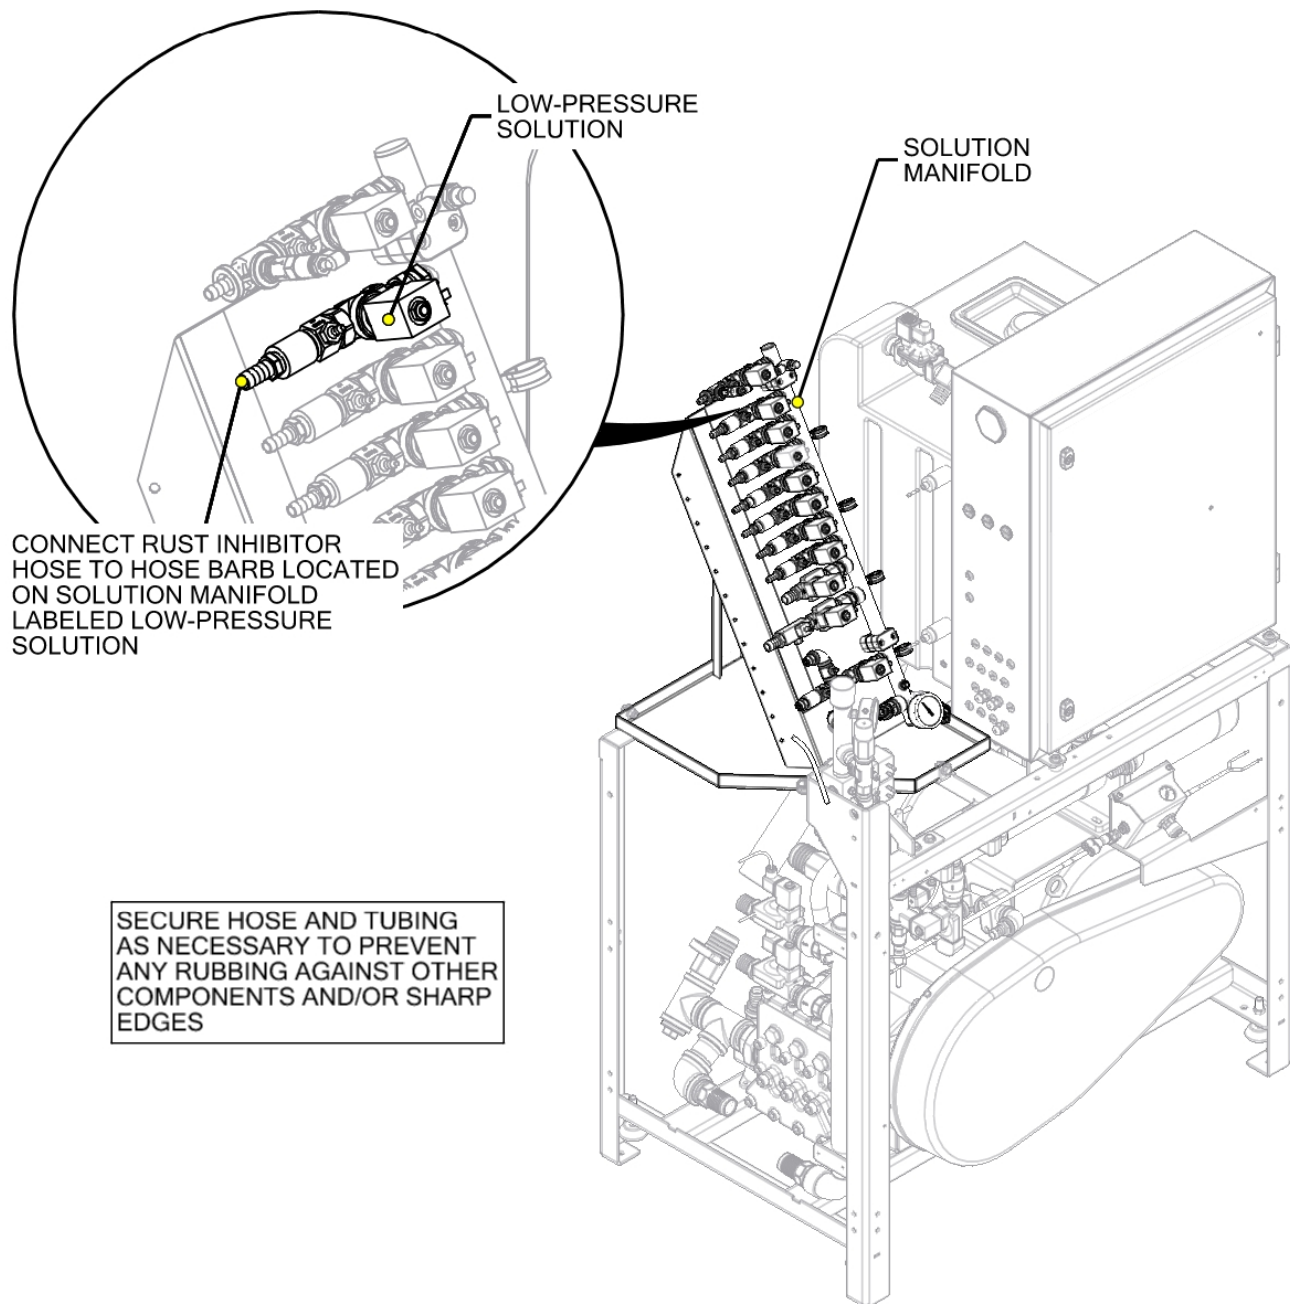

Figure 120 - Rust Inhibitor Hose Connection to Pump Station
- Connect the ½" hose to pump station and secure it with a hose clamp, Figure 120.